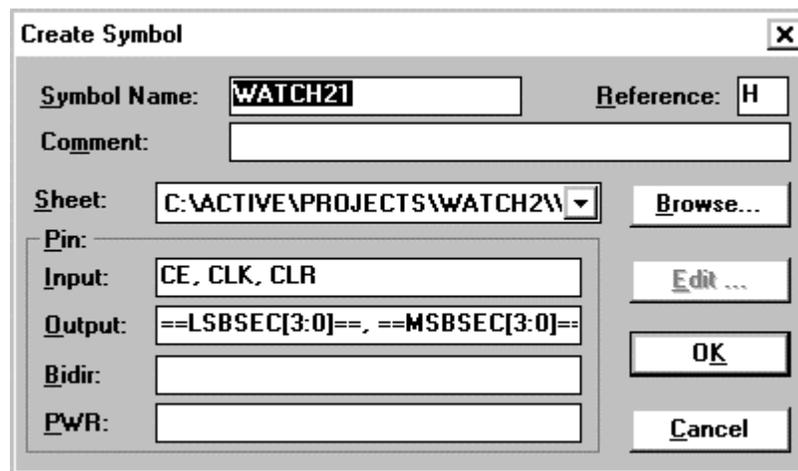

Figure 6. The Create Symbol dialog box.
- 1) Once the CNT60 schematic has been created, it's symbol can be created by clicking on the menu command: **Hierarchy>Create Macro Symbol From Current Sheet** from within the Schematic Editor. This step opens the “**Create Symbol**” dialog box, which allows entering the name **CNT60** for the macro (see Figure 6). After modifying the symbol name, click on “**OK**”. Foundation will create a netlist and symbol for the sheet and add the appropriate files to the projects directory and library. Before the symbol is added to the library, the user is asked to edit the symbol, answer “**NO**”.